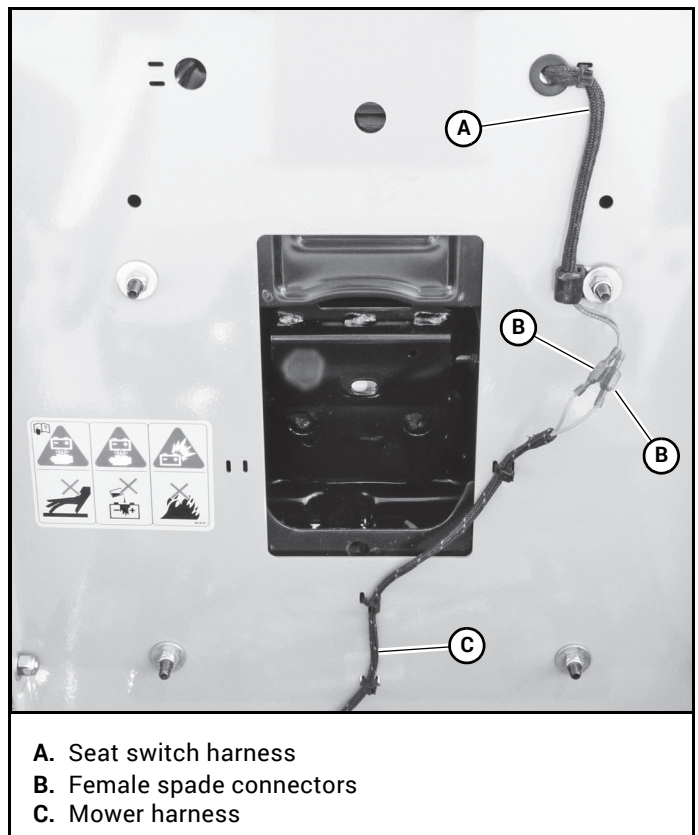

Figure 4-1
3. Raise the seat platform and disconnect the mower harness from the seat switch harness. Bypass the seat switch by connecting the two mower harness female spade connectors together. Figure 4-1
be completed so that the safety circuit is functioning properly. Figure 4-1